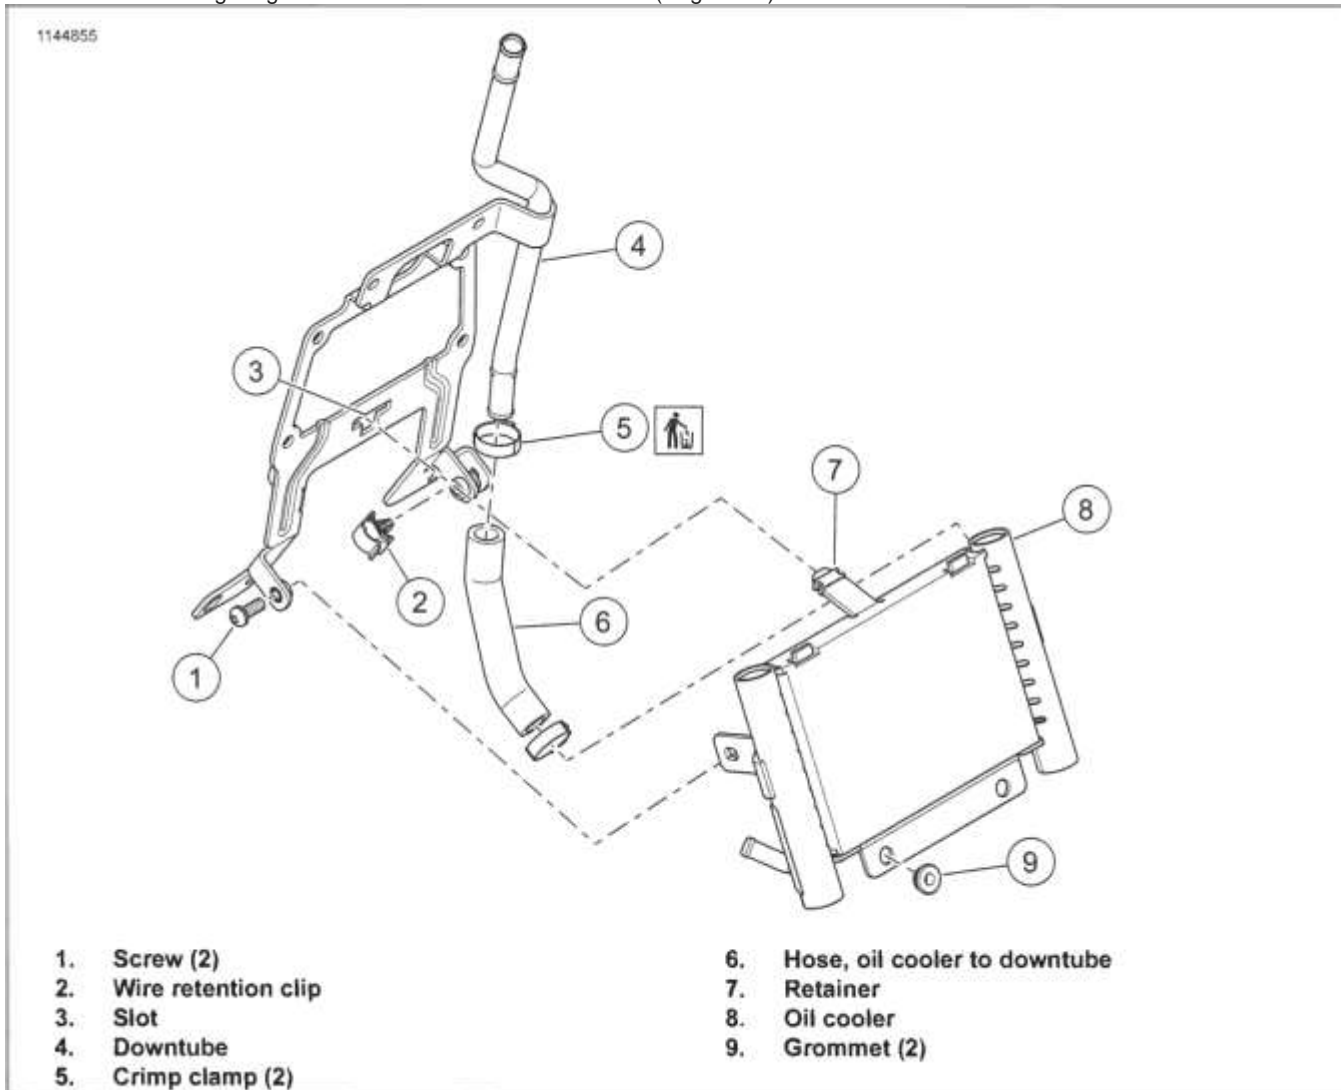

Figure 4-12. Oil Cooling Components
3. See Figure 4-12. Remove hose (6).
- a. Remove screws (2).
- b. Disengage tab (5) from T-slot (3).
1. See Figure 4-12. Install oil cooler to downtube.
- a. Engage tab (7) into T-slot (3).
- b. Install two screws (1).